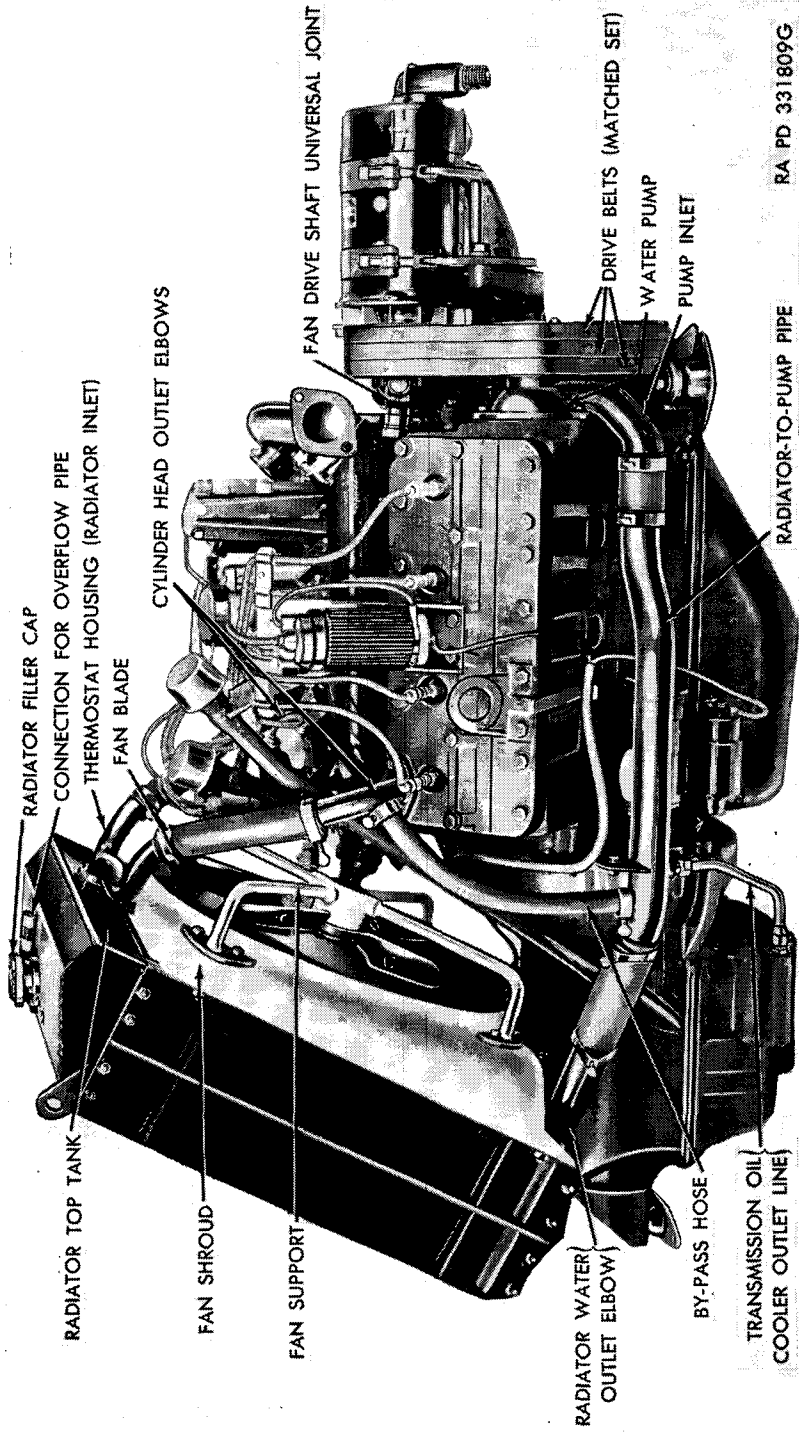

Figure 78. Cooling system.
- (1) This vehicle has two identical, but completely independent cooling systems; one for each engine and transmission (fig. 78). Each system contains a radiator, water pump, thermostat and necessary connections, engine fan and fan drive, and an oil cooler for the hydramatic transmission.
- (2) The coolant is drawn from the radiator by the water pump and forced into the engine water jackets. After circulating through both cylinder blocks and cylinder heads, the heated coolant is forced up through hose connections to the top tank of the radiator. A bimetal thermostat, with double poppet valves located in the radiator inlet housing permits free flow when the coolant is hot, but causes cold fluid to recirculate
- (3) *Remove radiator.* Disconnect radiator overflow pipes at hose connection at filler neck and under metal seal at engine compartment sides and remove pipes. Remove screws which hold metal seal to radiator cross angle and remove seal. Disconnect oil cooler hoses at each end of cooler where connected to tubes and plug pipes to minimize oil spillage (fig. 78). Remove oil cooler mounting bracket screws and lift oil cooler, hanger, and hoses from vehicle as an assembly. Loosen hose clamps on radiator thermostat housing at top of radiator and outlet pipe at bottom of radiator and pull hose off connections. Remove four screws which hold fan shaft universal joint bearing trunnions on fan drive shaft yoke. Slide slip joint back to clear yoke. Remove two long bolts which hold upper part of radiator to center and side supports. Back out one long bolt which holds lower part of radiator to side support.